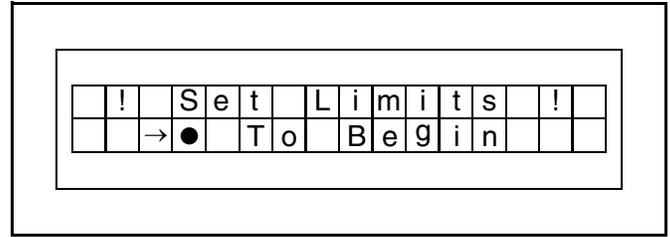

Figure 24
2. Apply power to the control system. During the system initialization, the display will indicate that the door open and close limits must be set by displaying “! Set Limits !”. (See Figure 24.)